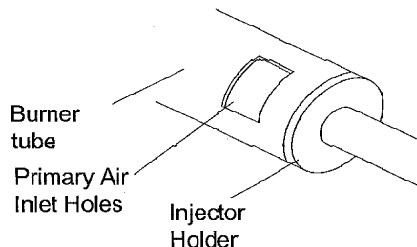

Figure 17 -Injector Holder On Outlet Burner Tube
2. Inspect burner, pilot and primary air inlet holes on injector holder for dust and dirt (see figure 17).